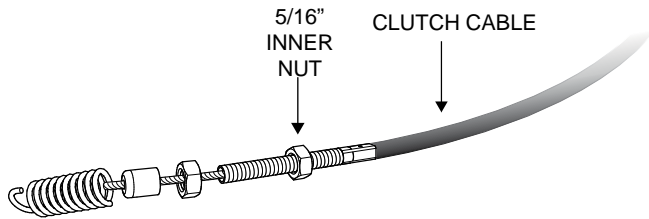

Figure 17. Inner Nut Adjustment
- Adjust the 5/16" inner nut (Figure 17) for a 7/8" distance from the threaded end on the clutch cable to the inner nut.